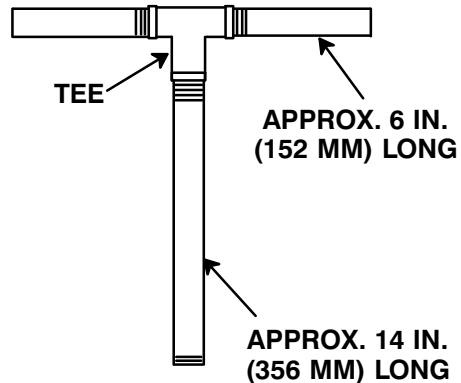

Figure 6. Rotating Assembly Tool
*iron) and a standard tee (see Figure 6). All threads are 1/2-inch NPT. **Do not pre-assemble the tool.***